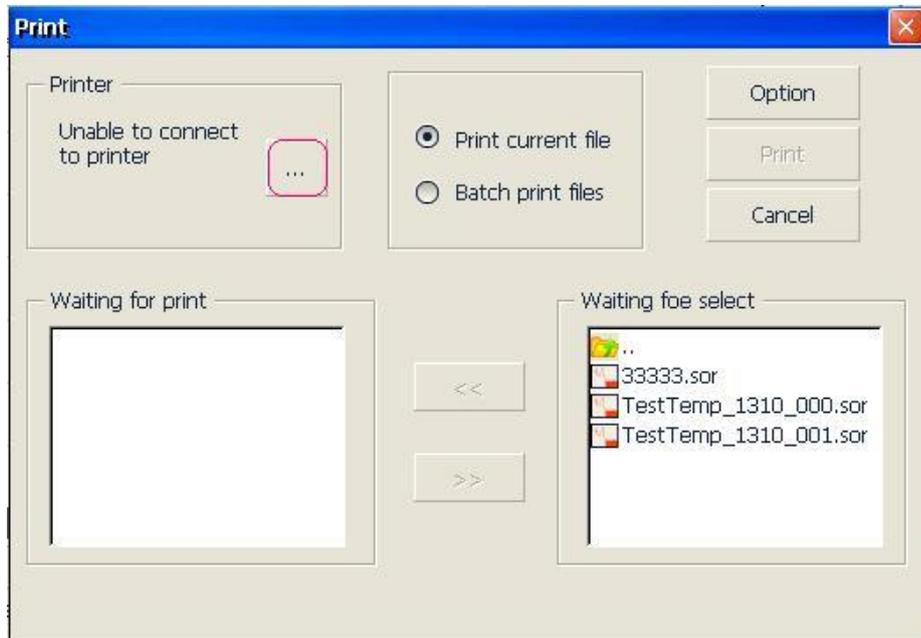

Fig. 2.2 Printer and setting interface
4. Click the  on the lower right corner, enter Print interface, as Fig. 2.2 shown below